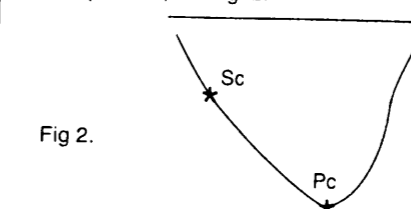

Fig 2.
- 2: Adjust VL201 so that the level of Picture carrier (Pc) marker point is at the lowest position, see fig. 2.